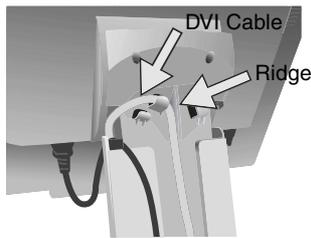

Figure C.3
6. Place DVI cable and power cable into the specific hooks indicated in **Figure C.3**.